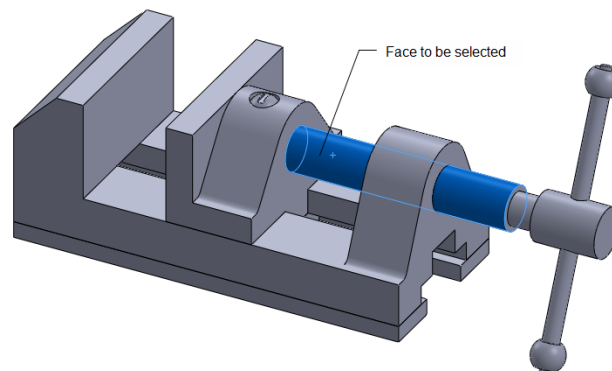

Figure 20-22 The face to be selected
3. Click in the **Motor Location** selection box of the **Component/Direction** rollout and select the cylindrical face of the Jaw Screw, refer to Figure 20-22. The selected face is also added in the **Motor Direction** selection box.